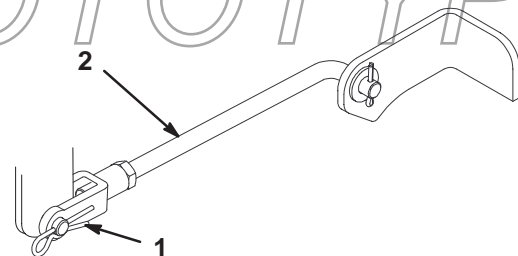

Figure 41
3. Remove the hairpin cotter and clevis pin from the front trunion yokes (Fig. 41).
- Attach the front trunion rods to the tractor with the clevis pins and hairpin cotters (Fig. 41).